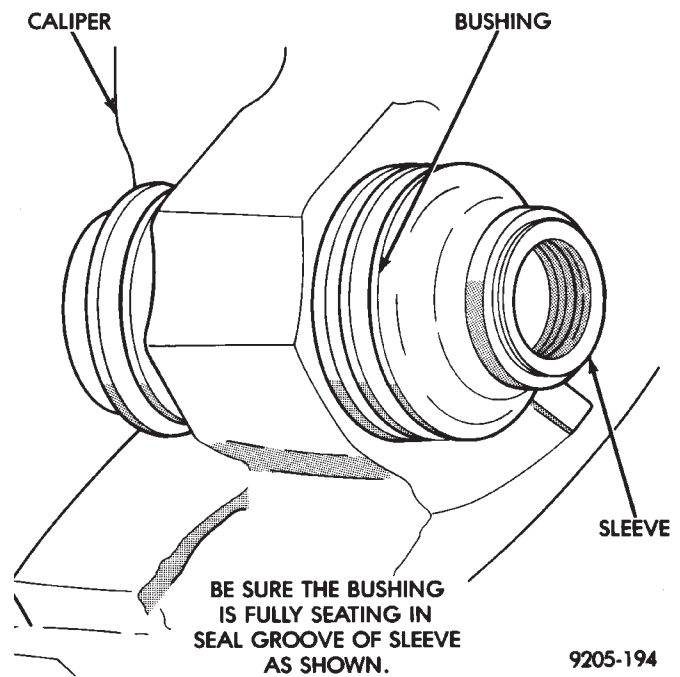

Fig. 8 Installed Caliper Bushing Sleeve
(3) Holding the sleeve in place work the other end of the bushing over the end of the sleeve and into the seal groove (Fig. 8). Be sure the other end of the bushing did not come out of the seal groove in the sleeve.
(4) When the sleeve is seated properly into the bushing. The sealed for life bushing can be held between your fingers and easily slid back and forth without the bushing seal unseating from the sleeve.